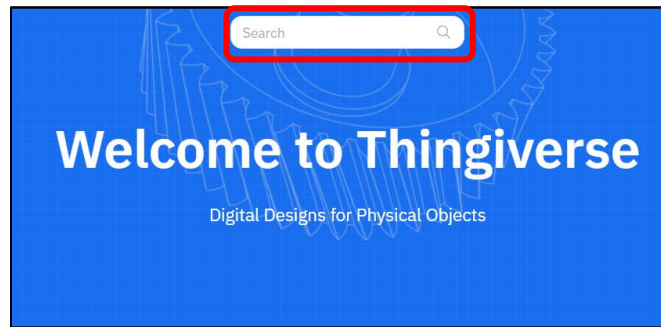

Figure 3: Indicating the Search Bar on the Thingiverse Homepage.
- 3) Click the Search bar. (Figure 3)